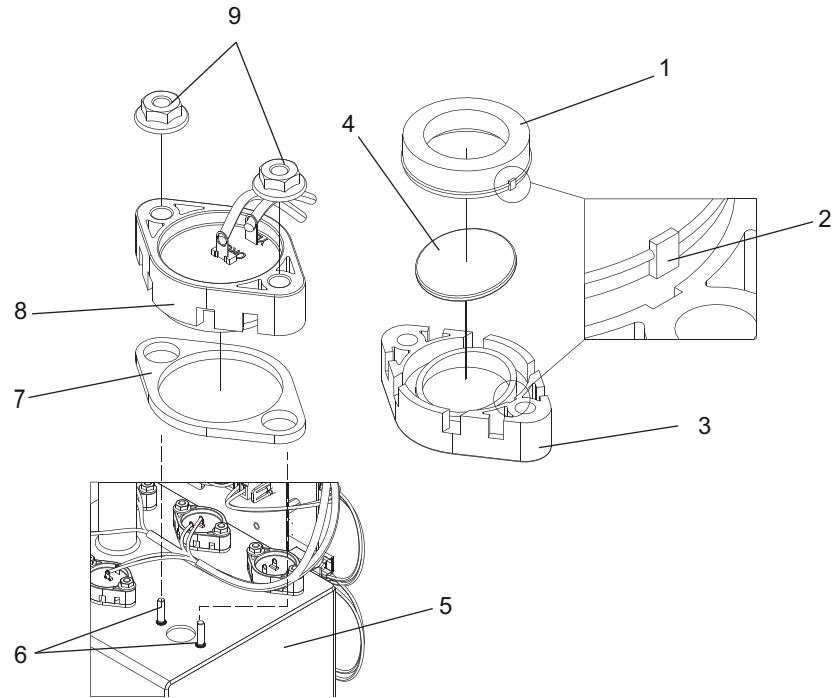

Figure 20 - Replacing Piezoelectric Transducers
4. Remove the two nuts that secure the transducer holder to the water reservoir. Lift the transducer holder upward to remove it from the reservoir. Refer to Figure 20 - on page 49.
1. Position the new transducer over the threaded studs and slide it downward. Make sure the transducer is mounted in the right direction. The contacts on the transducer holder should point to the center of the water tank. Refer to Figure 20 - on page 49.